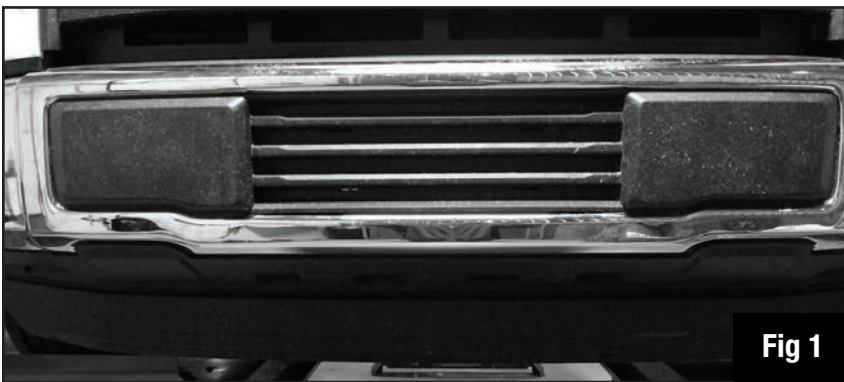

Fig 1
1) Begin by removing the factory bumper front plastic insert. From the backside of the bumper, push the inserts plastic pegs through. FIG 1 and 2.